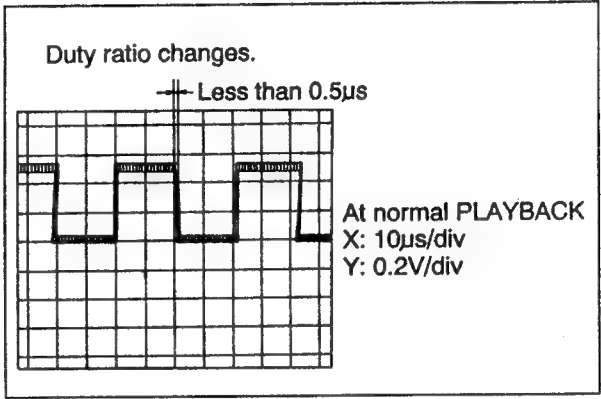

Fig. 1
2. Load a DCC music tape (RFKZ0034) into the unit under test and put the unit in PLAY mode. When the capstan servo is locked, a 47 Hz square wave with a duty ratio variation of less than 0.5μs will be observed on the scope (see Fig. 1). Unlock the servo and verify that the muting function is active.